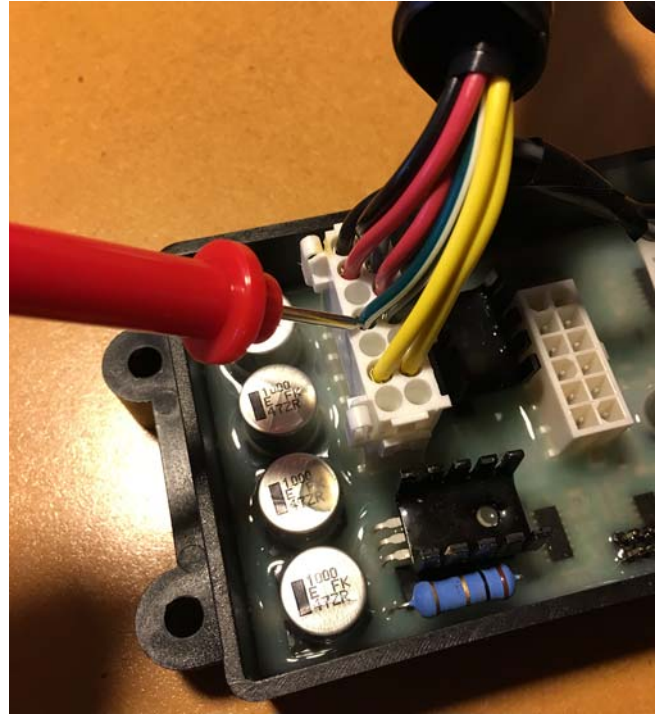

Figure 170
3. With a multi-meter, measure the volts DC of the green / white wire. See Figure 170.